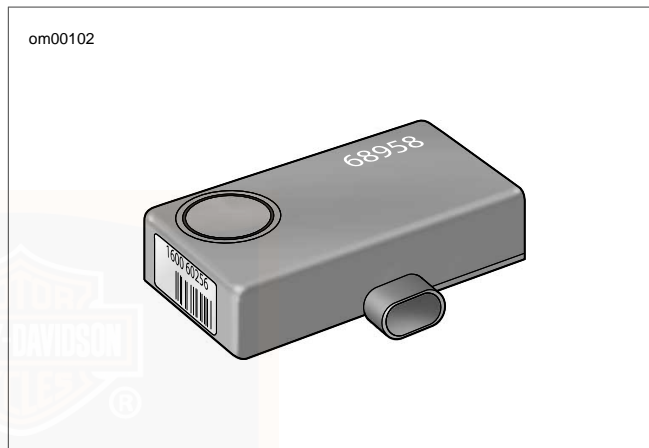

Figure 16. Optional Smart Siren
- See Figure 16. Sound the optional siren.